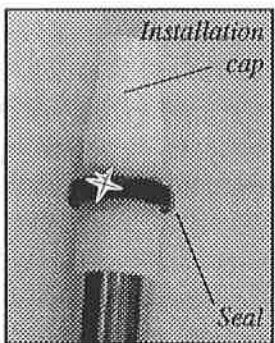

Fig. 22
7. Apply Teflon grease to the inner lip of the seal. Place the installation cap over the stanchion to cover the minimum insertion tape on the stanchion. This prevents scratching of the seal. Slide the seal over the installation cap (Fig. 22).